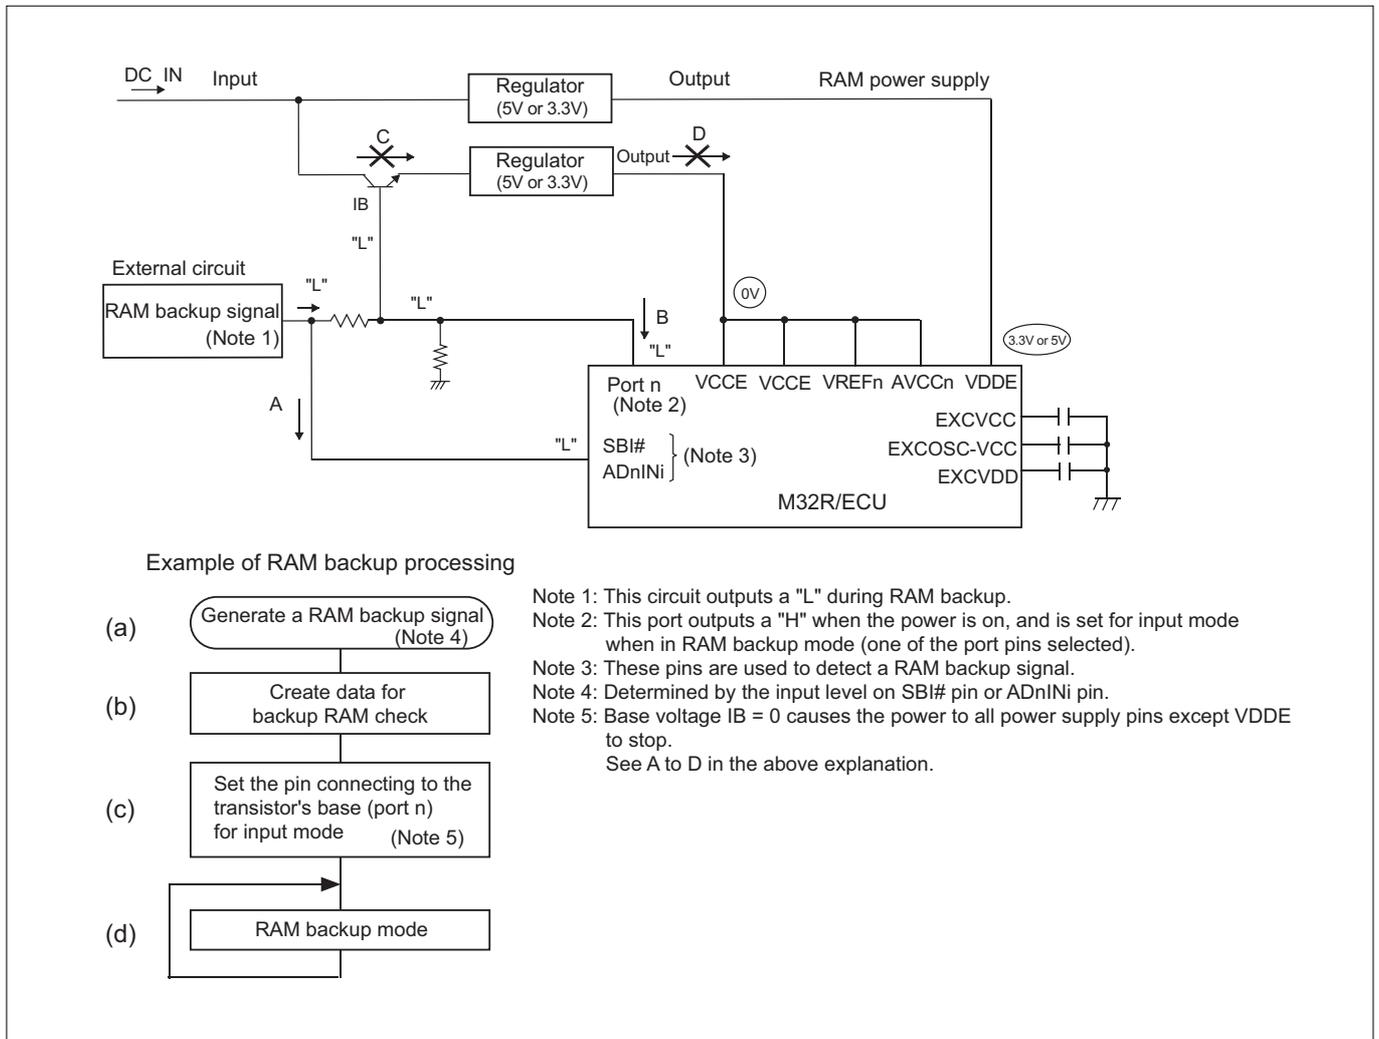
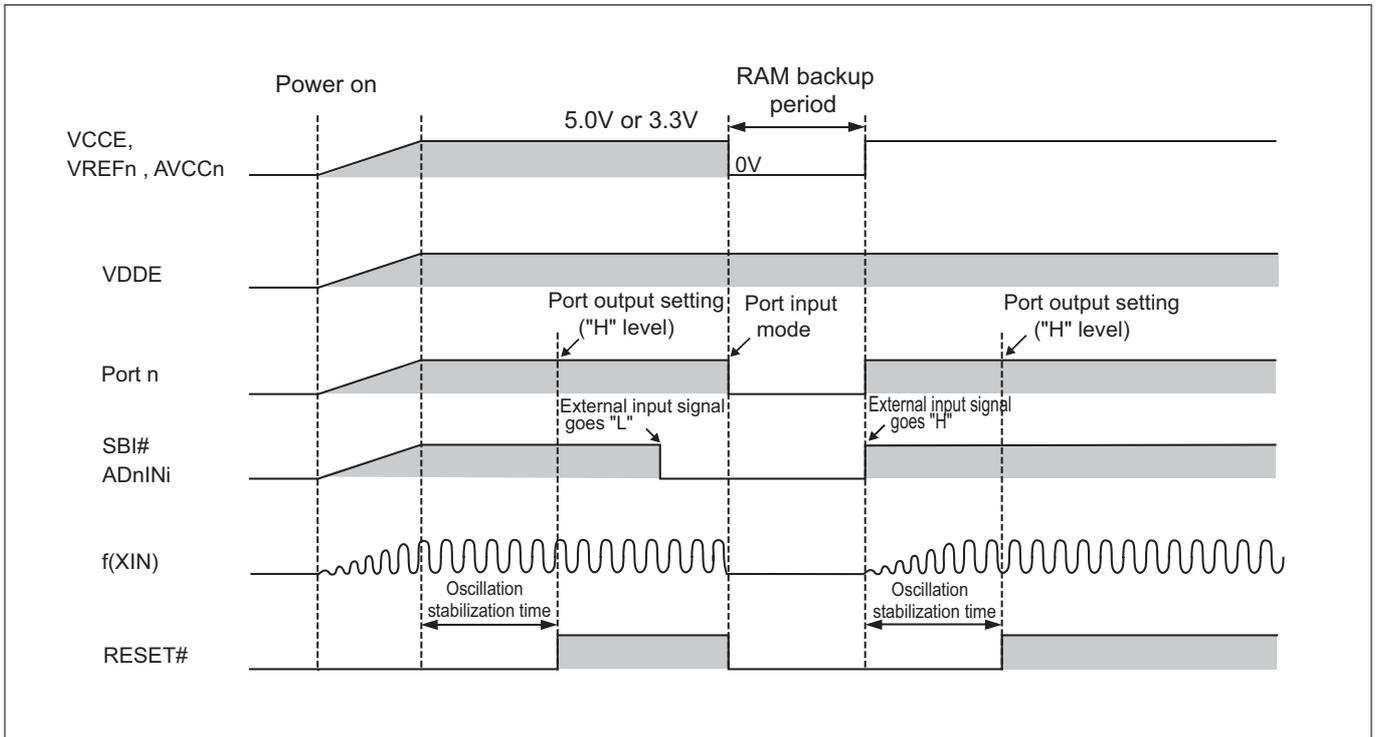

Figure 17.3.3 RAM Backup State for Low Power Operation
Figure 17.3.4 Example of a RAM Backup Sequence for Low Power Operation
Figure 17.3.3 shows the RAM backup state of the M32R/ECU. Figure 17.3.4 shows a RAM backup sequence. When the external circuit outputs a "L", input on the SBI# or ADnINi pin is pulled "L." A "L" on these input pins generates a RAM backup signal (A and (a) in Figure 17.3.3). To enable RAM backup mode, make the following settings:
- (1) Create data for RAM check to verify after returning from RAM backup mode to normal mode whether the RAM data has been retained normally ((b) in Figure 17.3.3).
- (2) To materialize low-power operation, set all programmable input/output pins except port n for input mode (or for output mode, with the output level fixed "L") ((c) in Figure 17.3.3).
- (3) Set port n for input mode (B and (d) in Figure 17.3.3). This causes the transistor's base voltage, IB, to go "L", so that the power to all power supply pins except VDDE is shut off (C and D in Figure 17.3.3).
By settings in (1) to (3), the VDDE pin voltage goes to 3.0–5.5 V and all other pin voltages drop to 0 V, and the M32R/ECU is thereby placed in RAM backup mode ((d) in Figure 17.3.3).